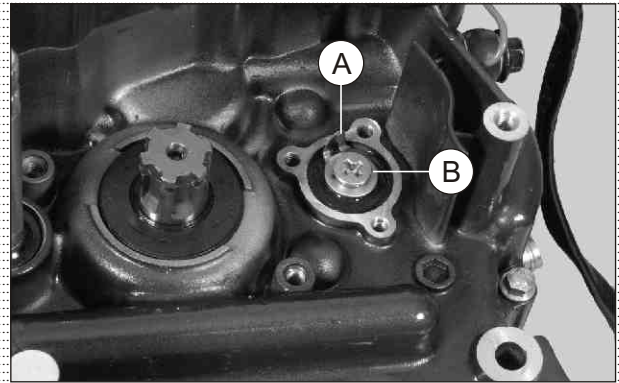

Fig. 3.50
- Remove contact complete gear shift switch (A) by loosening recessed CSK head screw (B). (Fig. 3.50)